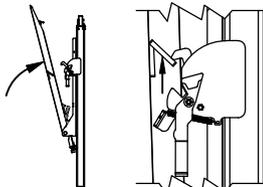

Figure 11: Step 13.
Step 13. Continue holding the self-close arm in the engaged position while raising the platform. After the platform begins to fold, release the handle of the self-close arm and step away from the lift. Continue raising the platform until the platform latch ear is above the latch slot (Figure 11).